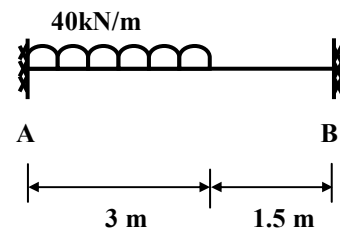

FIGURE- 4 Q-3(a) OR
Q.3 (a) Analyze the fixed beam as shown in *figure-4* and draw SFD and BMB for the same. Take EI constant. **07**